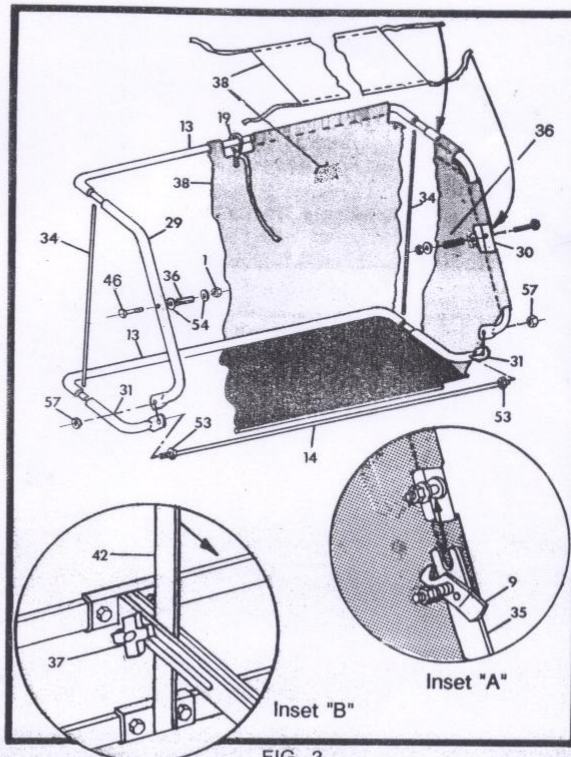

FIG. 3
Refer to Figure 3
- Insert 1/4" x 2" Hex Bolts (46- from OUTSIDE OF Hamper) into holes at both sides in Upper Side Tubes (29). Assemble a 1/4" Flat Washer (54- inside Hamper), Hamper Spacer (36), another 1/4" Flat Washer (54) and secure with 1/4" Hex Lock Nut (1). Tighten securely- DO NOT OVER TIGHTEN, can cause Tube to collapse.
- Open the Frame Latches (9) and place Hamper over Support Bars (35) and position the Hamper (Spacers) into slots (see Inset "A"-Fig. 3). Close Latches to retain.
- Tie the Windscreen (38) to Hamper Frame as shown in Figure 3 (ties to both sides of Frame).
- Tie the Hamper Pull Rope (19) around Rear Hamper Tube (13) at cut-out. Rope can be tied to tractor seat or fender for easy access.
Refer to Figure 3, Inset "B"